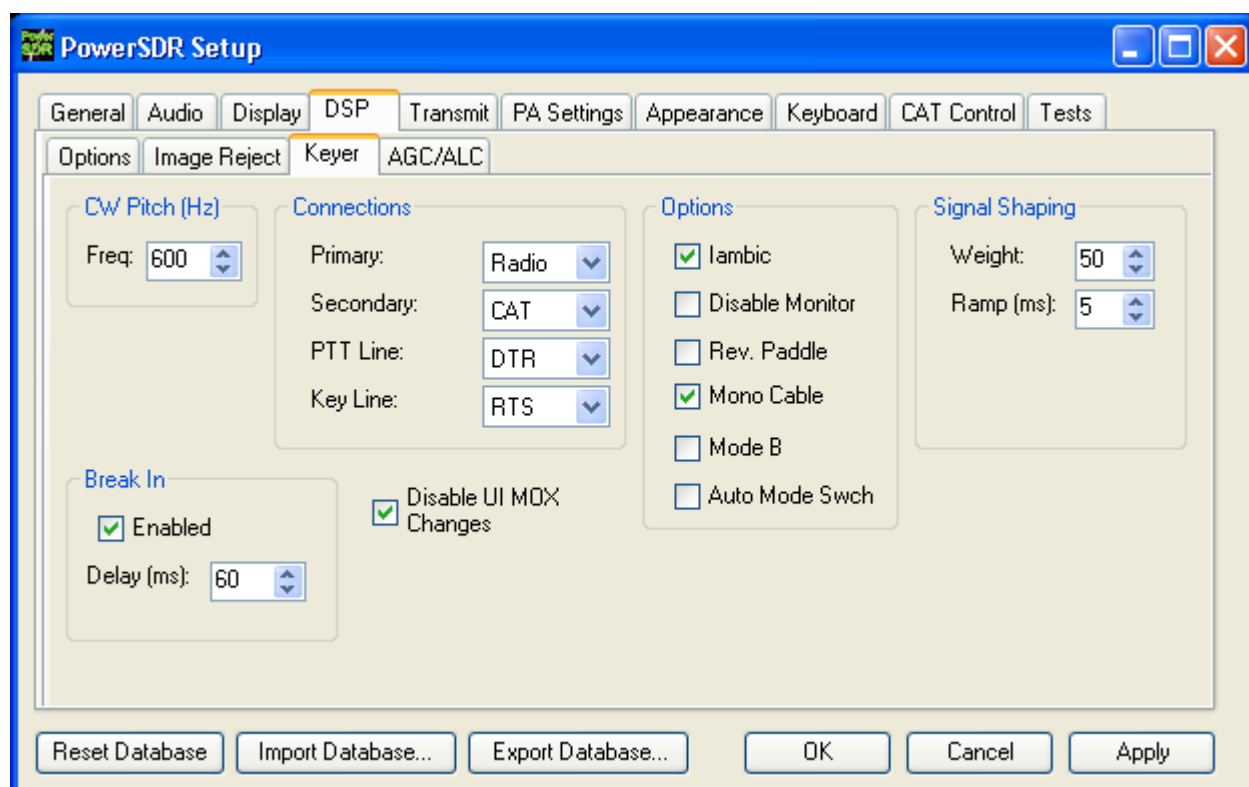

Figure 37: Setup Form – DSP Tab, Keyer Sub-Tab
If using PowerSDR's internal keyer, open the Setup Form – DSP Tab, Keyer Sub-Tab shown in Figure 37 below. Several of the controls in this form are also available in the **Mode Specific Controls – CW (8)** section on the Front Console.
1. Connect your keyer to the Key jack on the front panel (see page 3) and set the **Primary Connection** to **Radio** (see Figure 37 above)
4. If not using **Break In**, click **MOX (16)** on the Front Console and begin transmitting using your external keyer. If using **Break In**, simply begin transmitting to key the radio. If **Disable Monitor** is unchecked, you should hear the side tone. Verify with the **TX Meter (4)** set to **Fwd Pwr** that there is forward power.
5. You are now ready to begin a QSO. If a 50 ohm dummy load was connected, connect an antenna in its place. Tune to the desired frequency using one of the methods outlined in the Tuning Methods section above. Select either **CWL** or **CWU (6)** and proceed with the QSO.